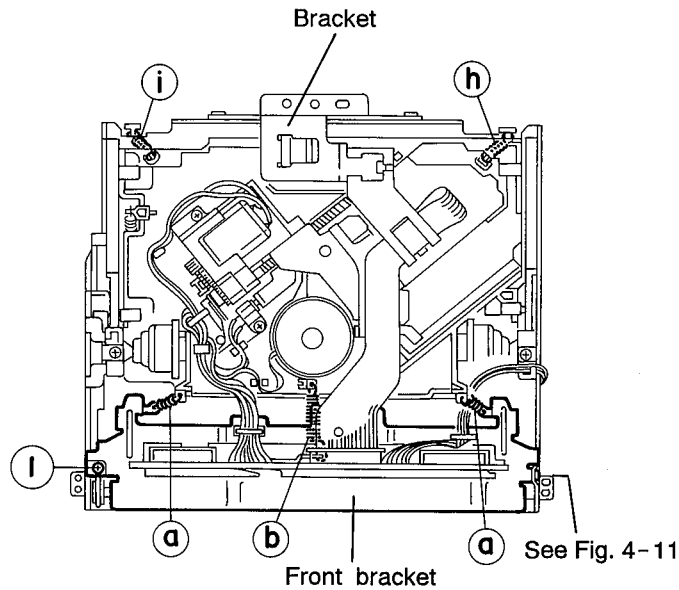

Fig. 4-10
5. Remove the three springs ③ and ⑥ from behind the CD mechanism assembly (See Fig. 4-10).
7. Remove the two screws ① retaining the front bracket for fixing the CD mechanism control P. C. board (See Fig. 4-10).
3. Remove the two springs ㉞ and ㉟ as shown in Fig. 4-10, 16.